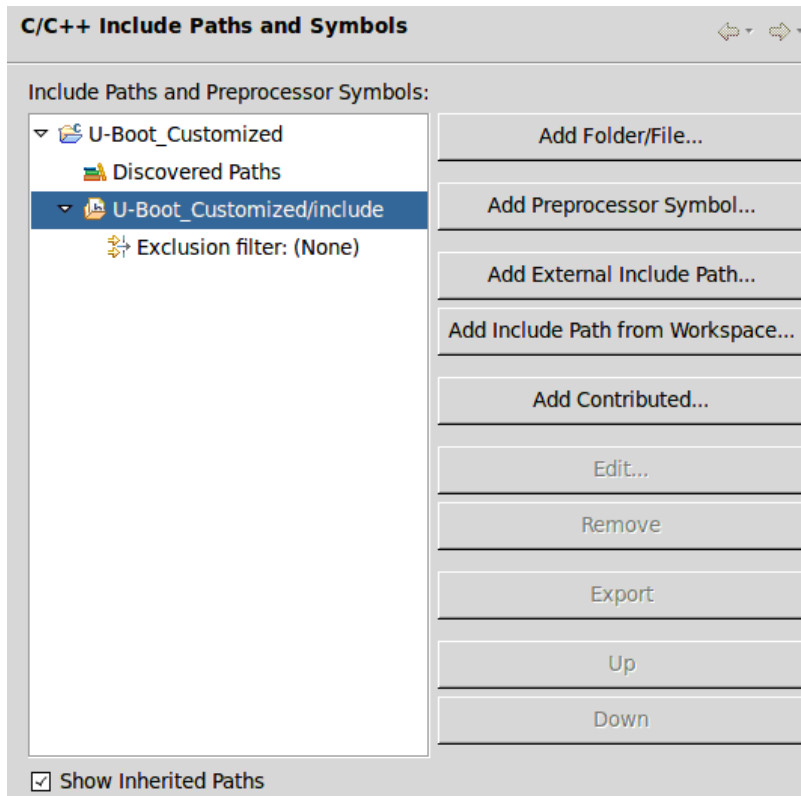

Figure 3. Include Path from Workspace
- Add the include path from workspace. For example—U-Boot_Customized/include. (See Figure 3)
Figure 3 shows the paths to be included from the workspace.